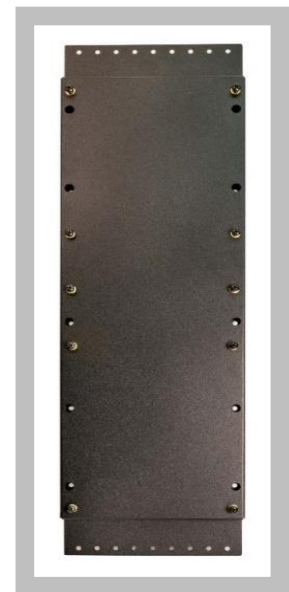

Figure 3
1. The optional backplate (**Figure 3**) makes installation easier.